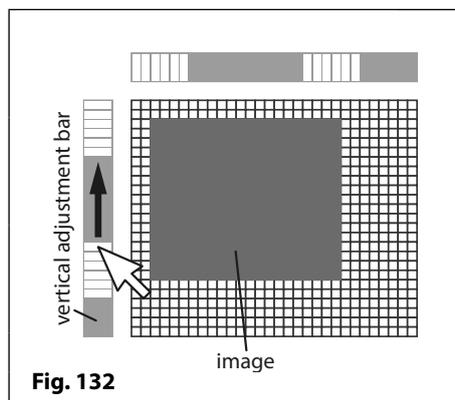

Fig. 132
2. Click and hold down on the left mouse button whilst moving the cursor up and the individual pixels will highlight (in white) one by one up the bar, as shown in **Fig.132**.